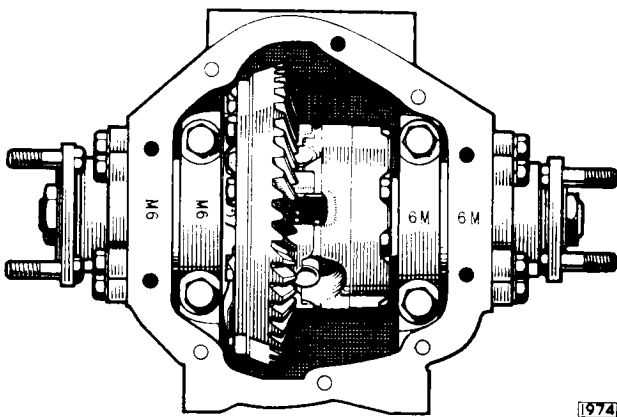

Fig. 35. Differential bearing cap markings
- (1) Install the pinion less the oil seal and slinger in the differential carrier. Fit the differential assembly.
- (2) Fit the differential bearing caps ensuring that the position of the numerals marked on the differential carrier face and the caps correspond as indicated in Fig. 35. Tighten the bolts securing the caps.